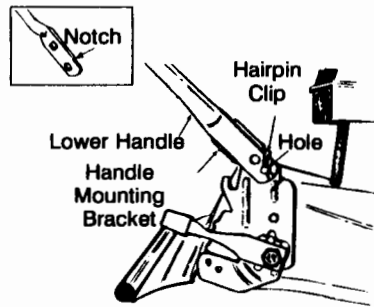

Figure 2
3. Secure with cotter pins in the inner holes in the weld pins. See figure 2.